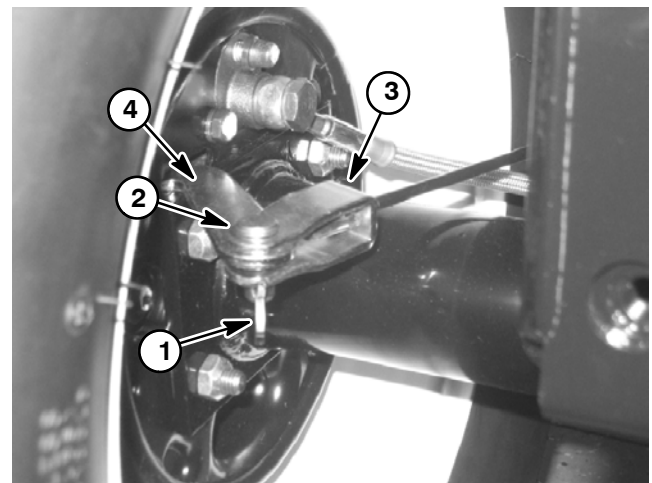

Figure 13
7. Remove cotter pins and clevis pins that secure parking brake cables to brake actuator levers (Fig. 13). Position brake cables away from transaxle assembly.